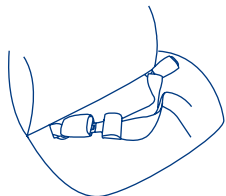

Fig. 40-2
- Buckle the seat belt being careful that the seat belt is not twisted and is securely latched into the appropriate buckle, and not the adjacent buckle. (Fig. 40-2)